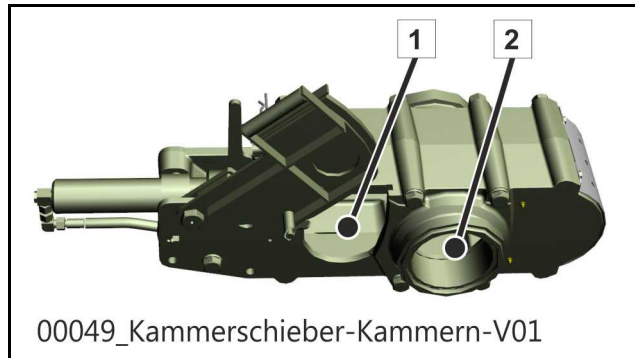

Fig. 466
- Clean the chambers (1+2) (**Fig. 466**) and the exterior of the chamber valve with water.